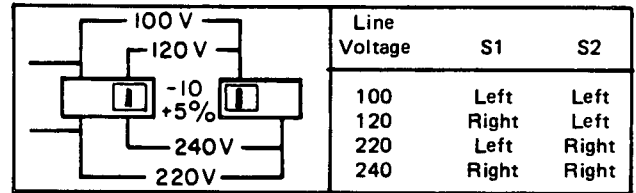

Figure 3-5. Line Selector Switches.
- b. Refer to Figure 3-5. Set the rear panel Line Selector switches to the setting that corresponds with the line voltage to be used. Line voltage must be within - 10% to + 5% of the selected voltage setting. Line frequency must be within the range of 48 Hz to 66 Hz.